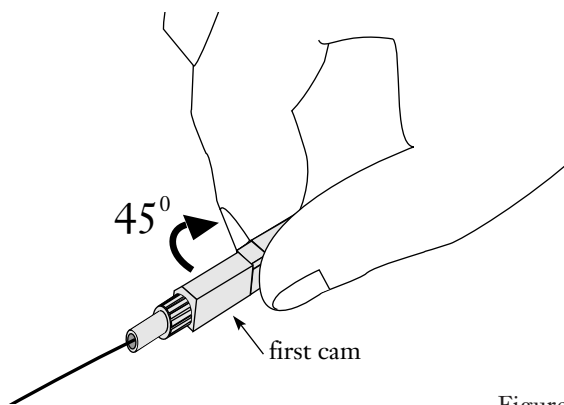

Figure 10
6.4 While gripping the other cam and the clear center section of the CamSplice unit, rotate the first cam clockwise 45° to lock the first fiber into place. Rotation of the cam secures the fiber to provide a positive stop for the second fiber (Figure 10).